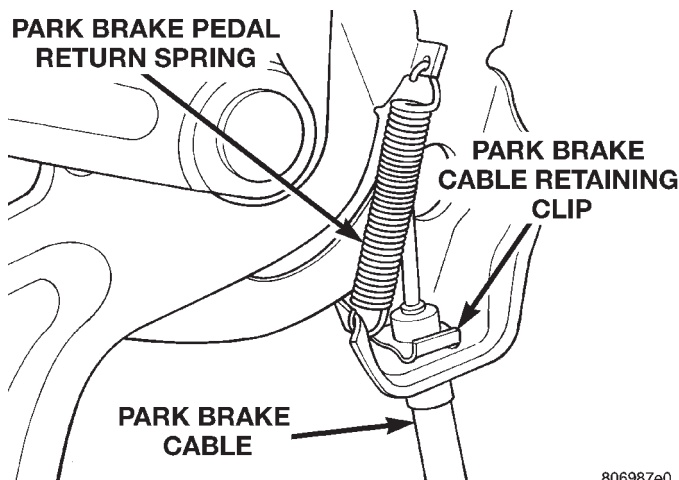

Fig. 94 Park Brake Cable Installed In Mechanism
(3) Install park brake cable to park brake pedal mechanism retaining clip (Fig. 94). Be sure retaining clip is fully installed on park brake cable. Install park brake pedal return spring (Fig. 94) before installing park brake pedal assembly back in vehicle.